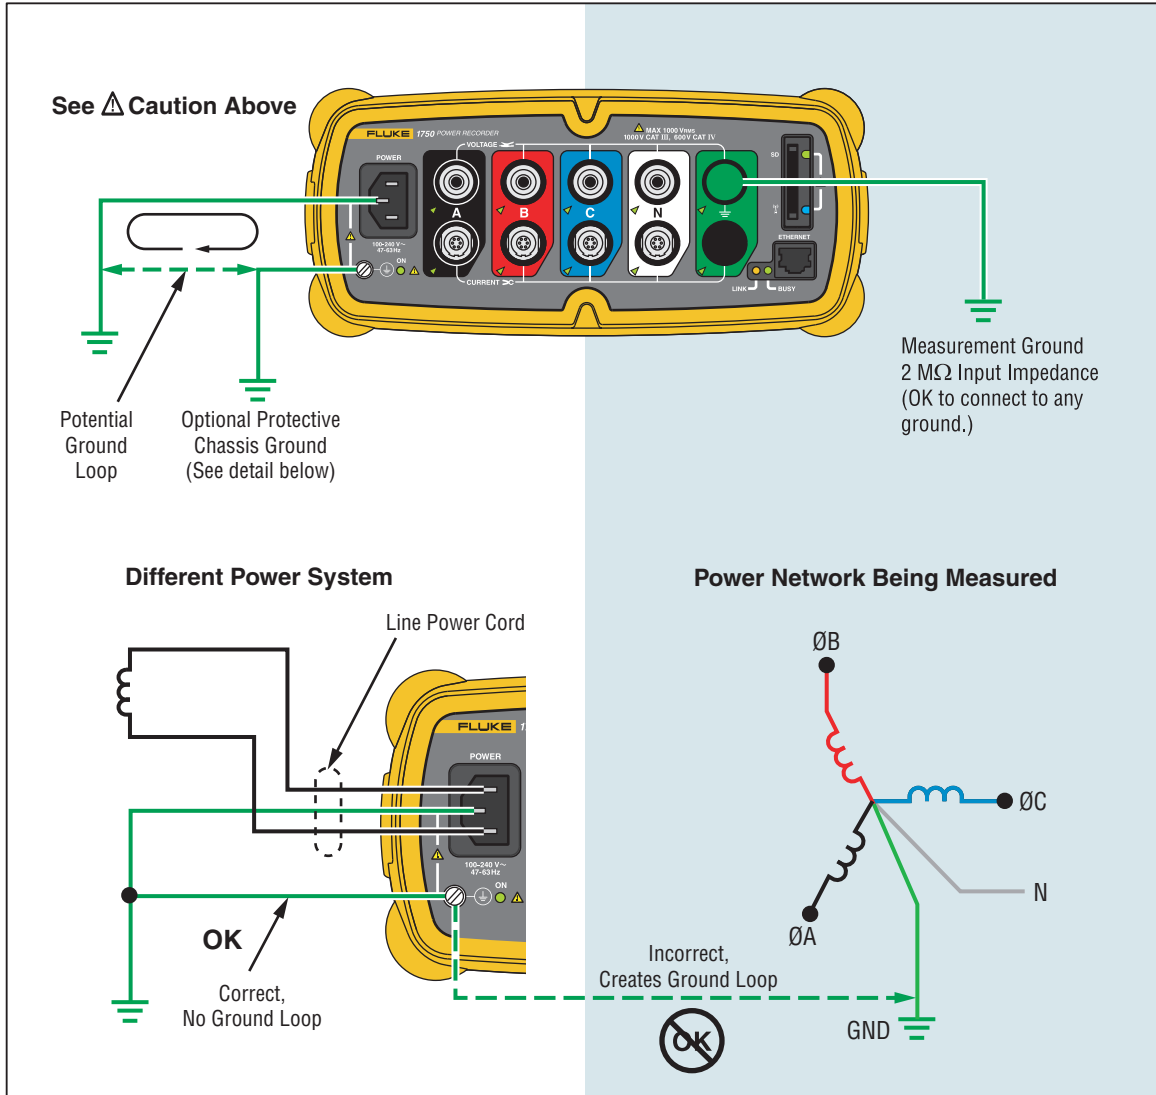

Figure 3. Connecting the Supplemental Ground Terminal
③	Five voltage measurement inputs
④	Removable Secure Digital (SD) memory card for transfer of large quantities of data. You can remove the card from the Recorder, insert in the PDA and transfer data to the PC via the “synchronize data” feature of the PDA. A USB SD card reader may also be used.
⑤	SD status indicator Steady green SD card inserted Blinking Busy - do not remove the card
⑥	Wireless Controller Status Indicator Steady Blue Wireless controller enabled but not communicating Blinking Wireless controller communicating Off Inactive
⑦	Ethernet port. TCP/IP via Ethernet is used to connect the Recorder to a PC for downloading recorded data, and for configuring the Recorder when not using the PDA. This is the recommended method of data transfer due to its speed and reliability.
⑧	Busy Indicator Blinking Network is busy
⑨	Link indicator Off No link Steady Link Present Blinking Communicating with PC
⑩	Current Measurement Terminals (5)
⑪	Current indicator Steady Current probe in normal range Blinking > 110% of probe range, use a higher range probe Off Current insufficient to measure
⑫	Power LED Steady green AC input power normal, instrument is not booted or locked Green/Orange blinking Recording Blinking red Recorder running on UPS
⑬	Ground Terminal Connecting the supplemental ground terminal and the line cord safety ground to different ground potentials creates a ground loop that can damage the Recorder. To avoid this, use the supplemental ground terminal only when no protective earth ground connection exists through the line power cord. If there is any chance that a safety ground connection does exist through the line power cord connection, make sure to connect the supplemental ground terminal only to the ground system used by the ac receptacle that powers the Recorder. See Figure 3.